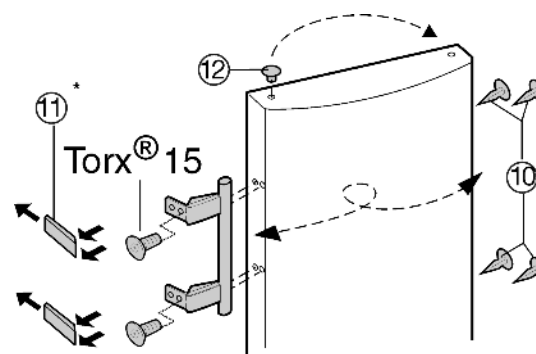

Fig. 6
- ▶ Lift the stopper Fig. 6 (12) out of the door bearing bush and transfer it.
- ▶ Detach door handle, stoppers Fig. 6 (10) and pressure plates Fig. 6 (11) and transfer to the opposite side.